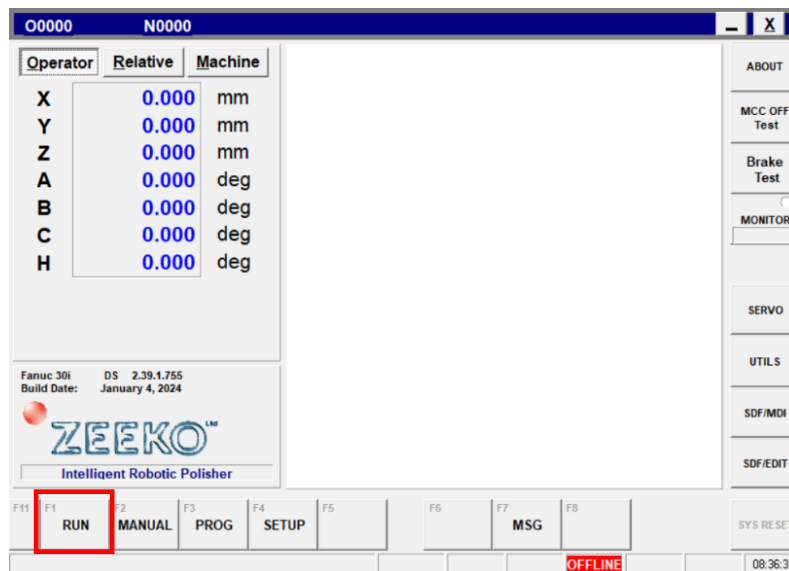

Figure 24 - Main screen - Run option
- A variety of pre-defined CNC programs are available to the Operator from the “RUN” page: See (Figure 24 - Main screen - Run option).